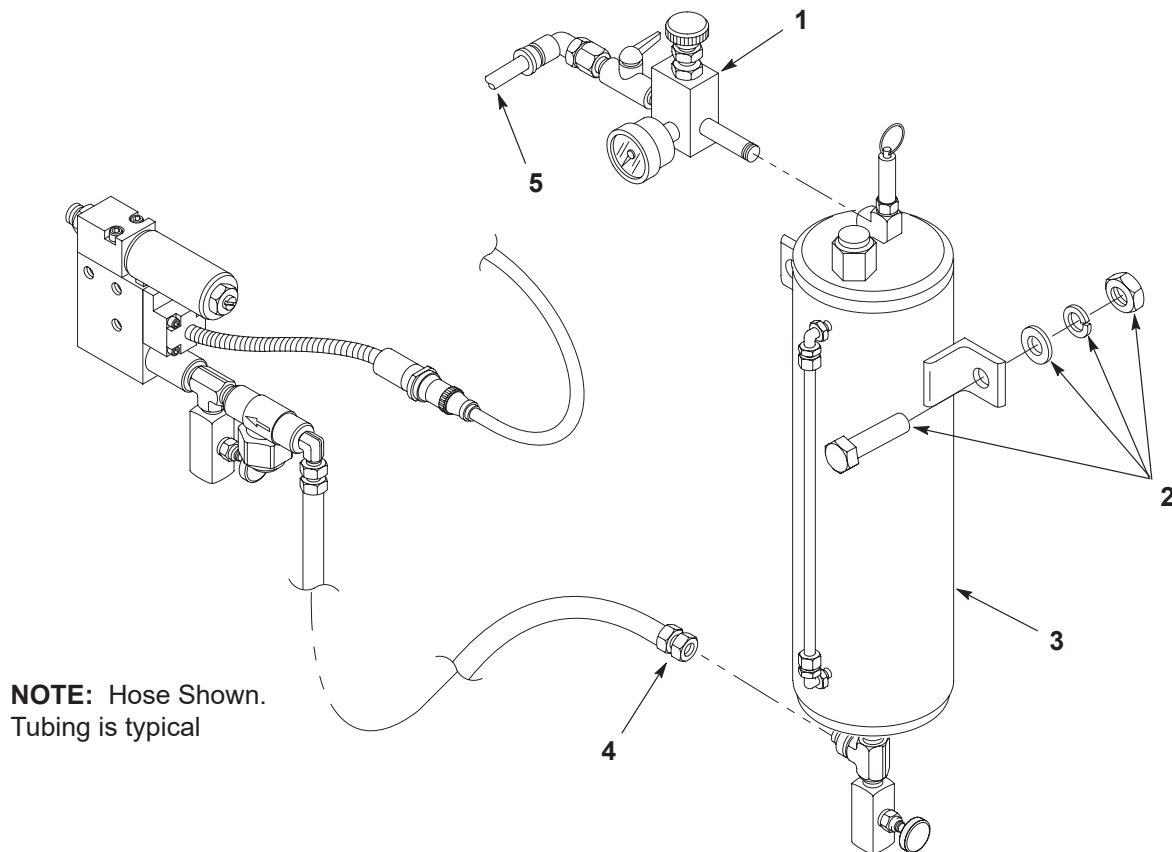

Figure 2 Removing the Ink-Dot Reservoir (Typical)
1. See Figure 2. Disconnect the hose or tubing (4) from the Ink-Dot reservoir (3).
2. Disconnect the air supply tubing (5) from the air pressure regulator (1).
3. Disconnect the air pressure regulator (1) from the Ink-Dot reservoir (3).
4. Remove the mounting hardware (2) from the Ink-Dot reservoir (3).